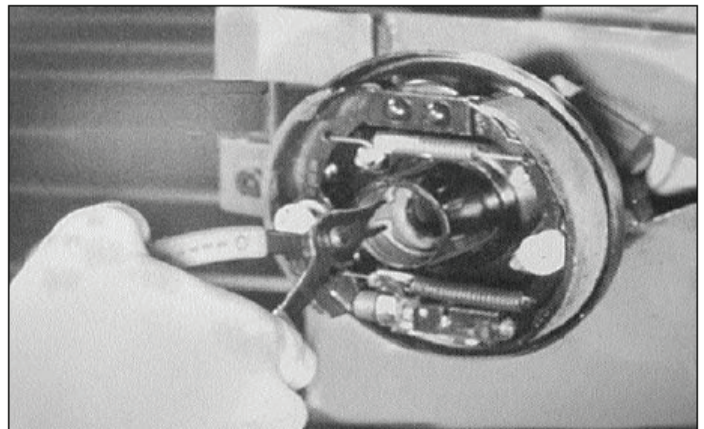

Figure 7-31. Installing Inner Snap Ring
17. Install inner snap ring 927 to both right and left tubes (Figure 7-31).